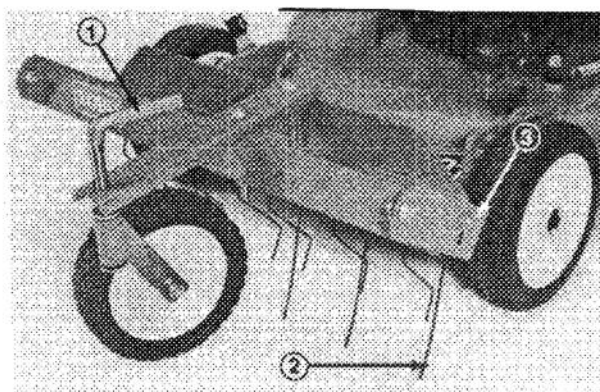

Figure 9
1. With mower and dethatcher on hard, level surface, set spring height by turning caster wheel handle. Recommended initial setting is so spring tips are 1/2" above hard surface (Fig. 9).
2. Loosen nuts securing spring guide rod to side frames, and raise or lower side frames to level springs from front to back (Fig. 9). Retighten nuts.